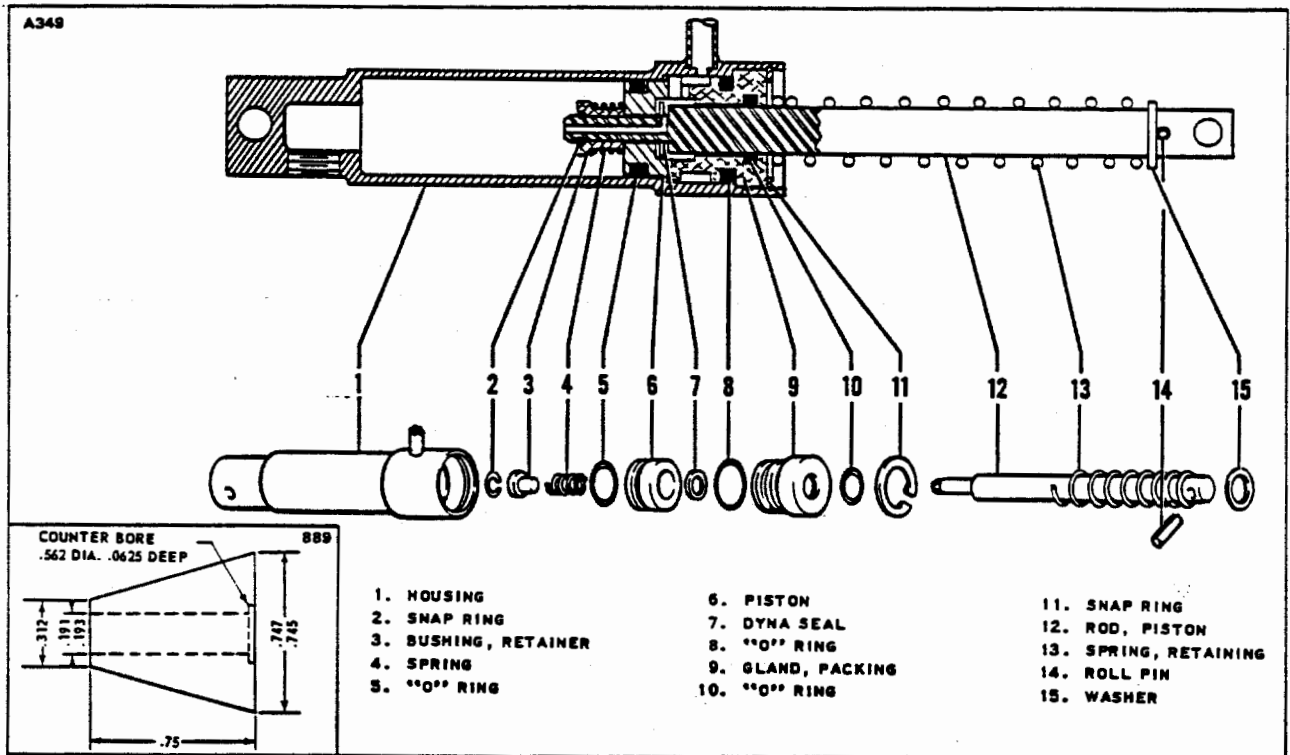

Figure 7-13. Brake Master Cylinder (Hand/Parking Brake)
7-35. DISASSEMBLY OF BRAKE MASTER CYLINDER. (Refer to Figure 7-13.)
7-37. ASSEMBLY OF BRAKE MASTER CYLINDER. (Refer to Figure 7-13.)
- a. Install new O-rings on the inside and outside of the packing gland (9) and on the outside of the piston (6). (When installing teflon O-ring (5) on piston, it is recommended that it be installed with the use of a cone placed against the piston. The cone may be constructed of plastic or metal, from dimensions shown in Figure 7-13.)
- b. To assemble the piston rod assembly, install the following parts on the rod (12) in order, the roll pin (14), return spring retainer washer (15), return spring (13), packing gland (9) with new O-rings, seal (10), piston (6) with new O-ring, spring (4) and retainer bushing (3). Secure these pieces with the small snap ring (2) on the end of the rod.
- c. Insert the piston rod assembly in the cylinder (1) and secure the packing gland with snap ring (11).